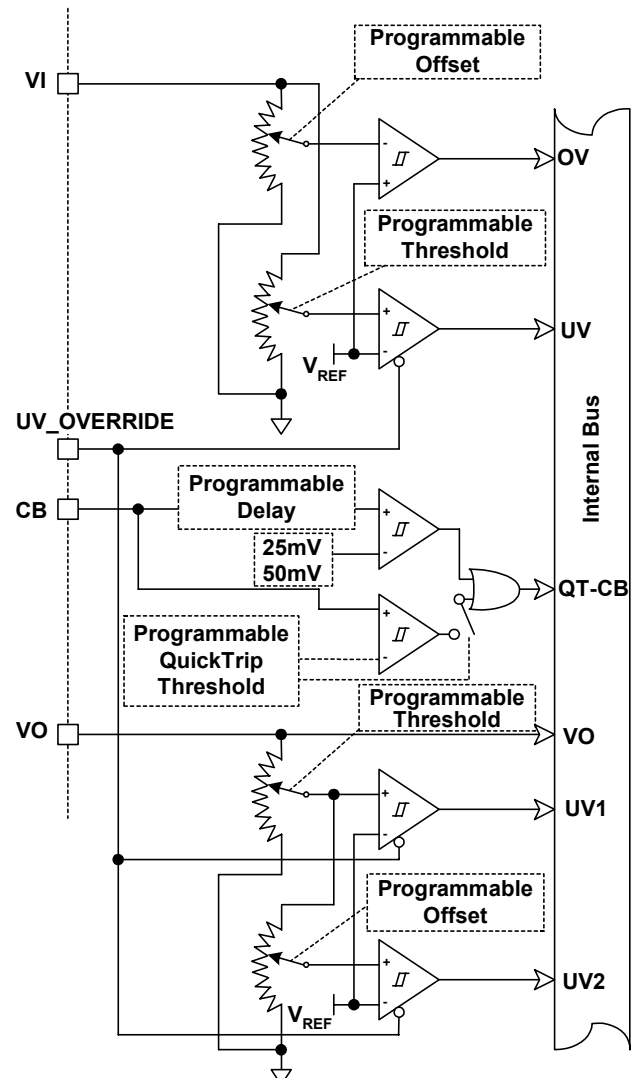
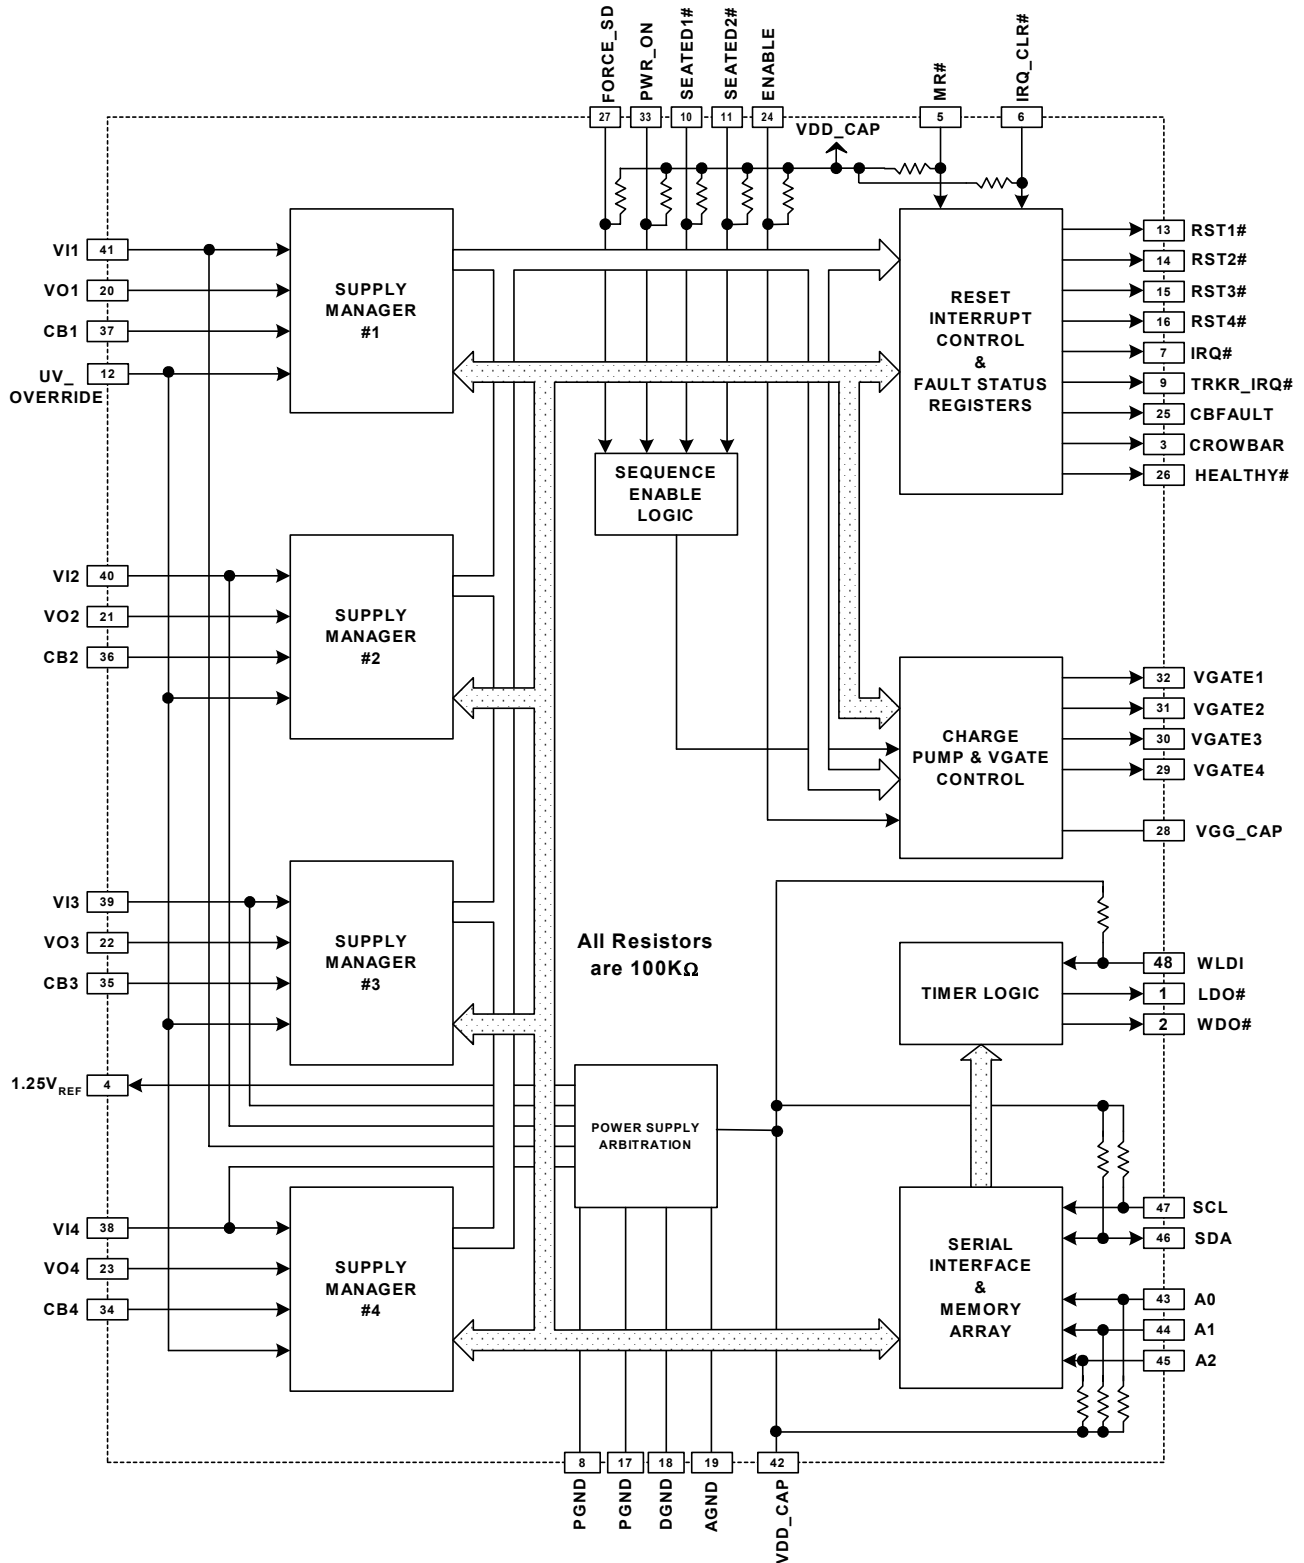

Figure 1. Supply Manager Schematic.
Figure 7. SMT4004A Internal Block Diagram.
The SMT4004A has four distinct programmable power supply managers and associated circuitry (see Figure 7). The managers are individually programmable and can operate independently or together with the other managers. Each manager monitors the bus and card-side voltages and current for that supply (Figure 1). The VI pin is the bus-side input that connects to two comparators to monitor under-voltage (UV) and over-voltage conditions (OV). The threshold for the UV detector is programmable in 20mV increments, from 0.9V to 6.0V. The OV detector is programmable in 4% increments of the UV settings, from 120% to 244% of the UV settings. The OV threshold is an offset from the UV sensor and the offset varies as the UV threshold: if UV is set to 0.9V then OV can be set from 1.08 to 2.2V.
The VGATE outputs control the gate voltages of external N-channel MOSFETs. Each MOSFET separates the bus and card-side voltages. The VGATE outputs control the card-side slew rates during the power-on/-off interval. The VGATEs are turned on when their controlling inputs either meet softstart conditions or when tracking conditions are met so the MOSFET card-side voltages track. The manager inputs (Figure 1) and the control inputs (Figure 4) control the VGATE outputs.